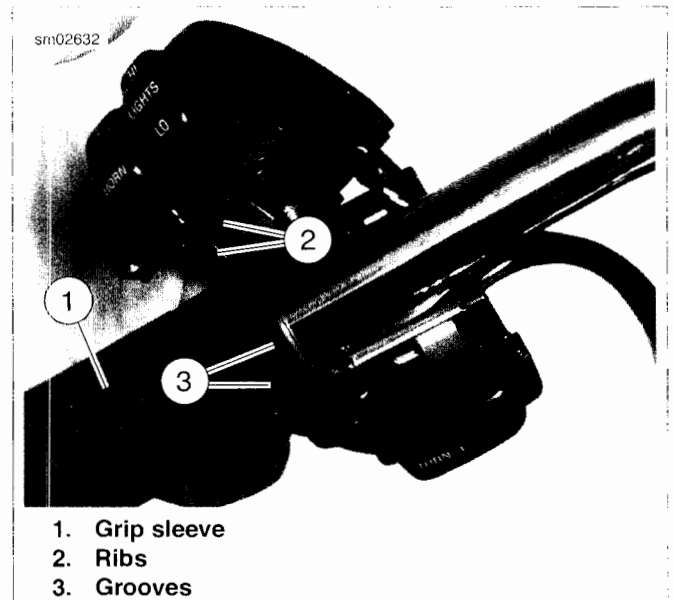

Figure 7-100. Left Handlebar Switch Housings
2. See Figure 7-100. Install upper and lower switch housings on handlebar. Be sure that ribs (2) on outboard side of switch housings fit in grooves (3) molded into grip.